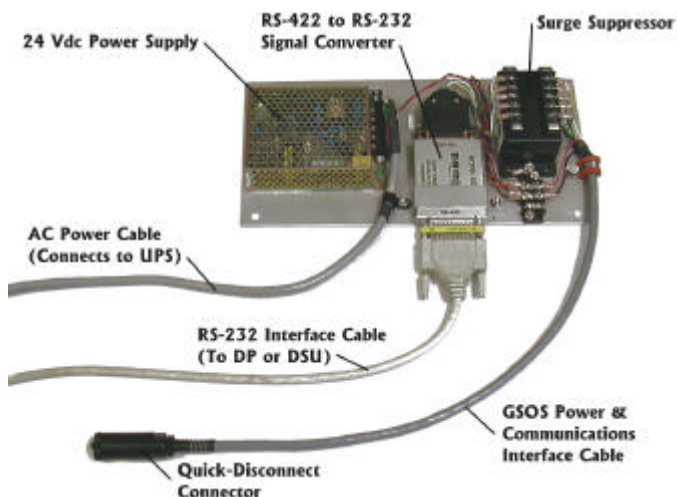

Figure 11 GSOS Power Supply and Communications Interface Assembly
2. Mount the GSOS Power Supply and Communications Interface Assembly (see Figure 11) in an equipment rack or rack frame. Clip-nuts and screws are provided for this purpose.